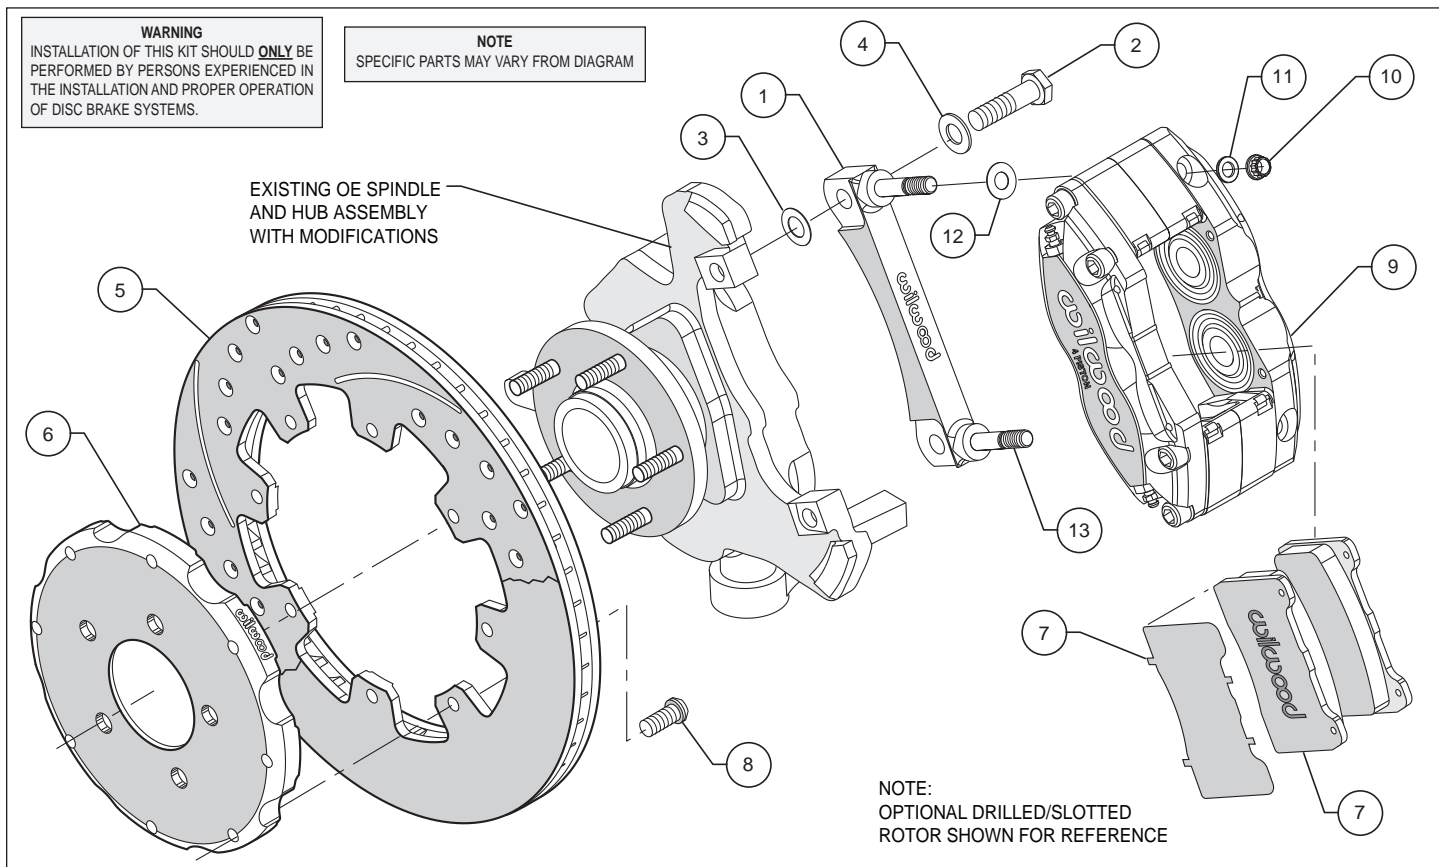

Figure 3. Typical Installation Configuration
- The caliper mounting bracket assembly (1) should be installed first with clean, dry threads on the mounting bolts. Install the bracket from the rear side of the spindle by sliding bolts (2) through flatwasher (4). Place shim washer (3) between the bracket (1) and the backside of the spindle (see Figure 3). The bracket must tighten squarely against the side of the spindle body. Inspect for interference from casting irregularities, machining ridges, burrs, etc. Use one thin shim (3) between the bracket and spindle during initial trial fitting.
- With the larger I.D. side of the rotor (5) facing away from the hat (6), attach rotor (5) to hat (6) using bolts (8) as shown in Figure 3. Using an alternating sequence, remove bolts (8) one at a time, apply red *Loctite*® 271 to the threads, and torque to 25 ft-lb.
- NOTE:** Please reference the caution statement at the beginning of the assembly instructions. Install one washer (12) over each pre-installed stud (13) on the radial mount bracket (1). Slide the caliper (9) in place over the studs and rotors and install the washer (11) and lock nut (10) to hold the caliper in place. Snug the lock nuts (10) and check that the rotor (5) is centered in the caliper (9). Add or subtract .016" shims (3) as necessary between the bracket and the spindle to center the caliper (9).
- Remove the caliper quick-clip pad retainer from the caliper. Remove the protective material from the adhesive side of the anti-squeal shims (14) and place against the backing plate side of the brake pads (7) utilizing the contour of the backing plate as a guide. Secure material to backing plate by bending the four tabs over the edge of the backing plate. Slide the brake pads (7) with the shims into place. They should install easily without interference. Check that the outside radius of the brake pad is aligned with the outside diameter radius of the rotor face. Add or subtract shims (12) between the caliper and mount bracket to gain the proper alignment. Reinstall the quick-clip pad retainer.
- Once all clearances have been checked, remove the wheel, caliper, hat, and rotor from the spindle and hub. Secure the caliper mounting bracket (1) to the spindle with bolt (2) using red *Loctite*® 271 on the threads. Torque the bolts to 47 ft-lbs. Reinstall the hat and rotor assembly and again use three lug nuts to hold it in place. Lubricate caliper mounting studs and nuts with lightweight oil, reinstall the caliper, torque the caliper nuts (10) to 30 ft-lb.